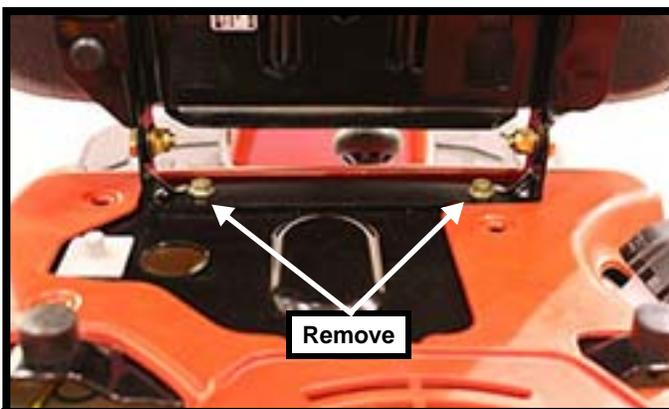

Figure 2
6. Remove the two 1/4-20x0.625" tap screws that secure the seat and seat bracket to the frame, then remove the seat and bracket. Figure 2